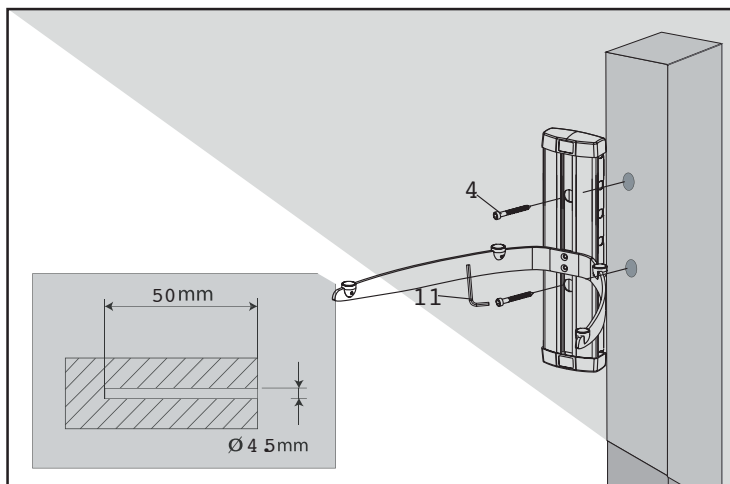

Fig. 3
Use an electronic detector in lay position to detect the position of batten, then making a mark. Put the wall mount in the installing position flatly, using it as template, lining out holes in the batten. Using a aiguille of dia 4.5 mm to drill three 50 mm deep holes. Securely mount the wall plate with supplied Long bolts (4) using 5x5mm Wrench (I I). As shown in Fig. 3.